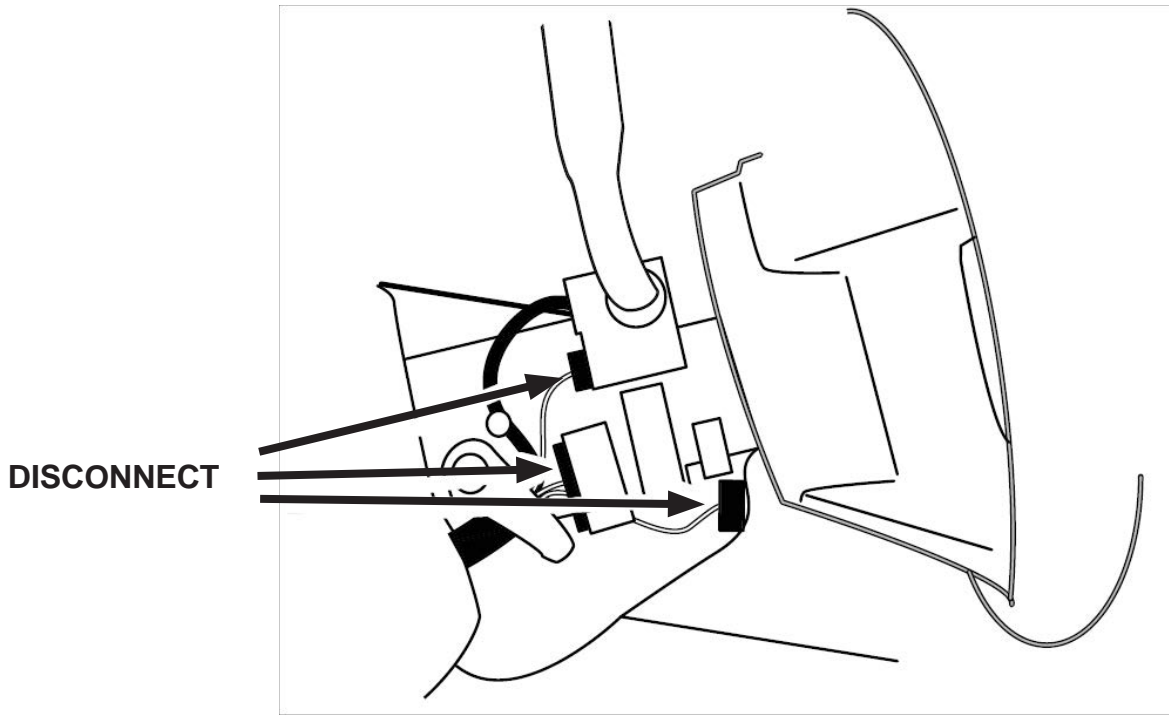

FIGURE 6
10. Disconnect the three connectors on the left side of the column. Remove the two harness pin-type retainers. See Figure 6.